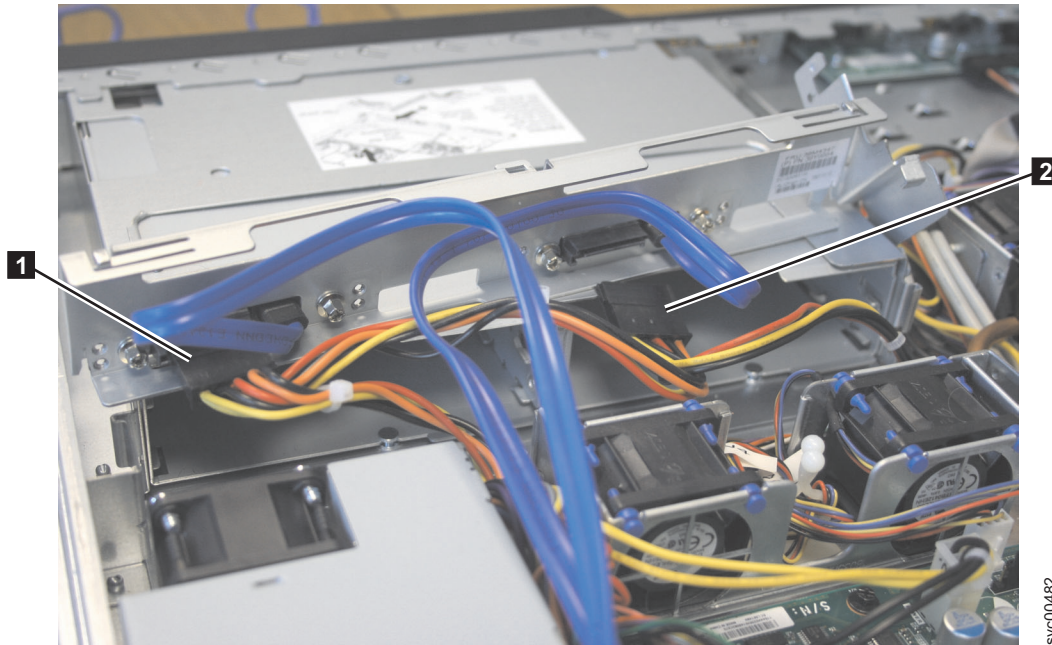

Figure 116. SAN Volume Controller 2145-8A4 power supply connectors
10. Slightly lift the backplane out of the node. Disconnect power cable connectors P2 **1** and P3 **2**, shown in Figure 116 on page 136, and remove the backplane.